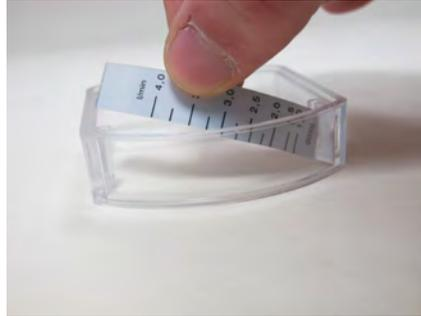

Fig. 40
4. Pull scale carrier (with affixed scale) from the guide of the plastic housing (Fig. 40)